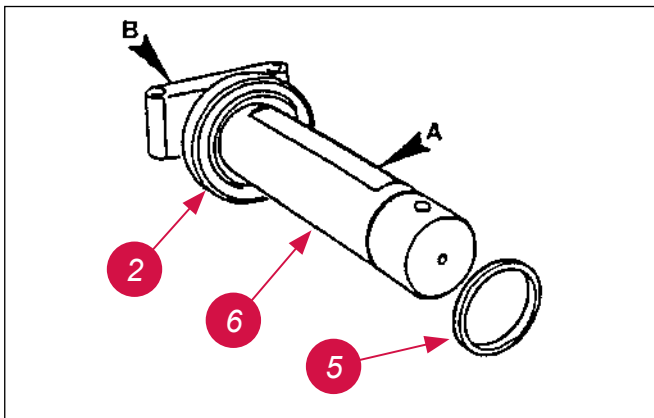

Fig. TSR-8. Shaft – Install
3. Install o rings (5) onto shaft (6). Install shaft into one bracket (2) making sure the oil groove (A) faces the same direction as the mounting surface (B) of the bracket (fig. TSR-8).